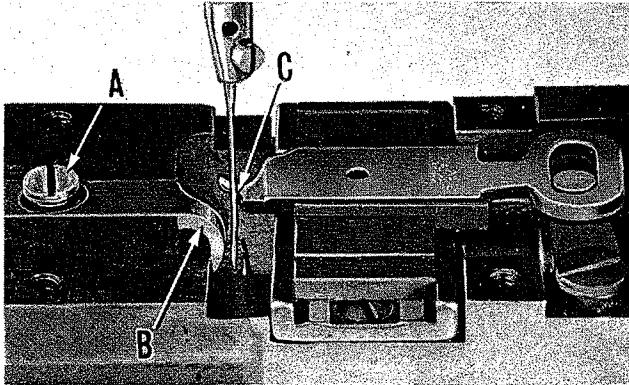

Fig. 25
Move the needle guard (B, Fig. 25) away from the needle by loosening screw (A), and sliding the guard forward. Engage machine into RUN POSITION and rotate the pulley two complete revolutions in operating direction. Continue rotation until the needle bar reaches its lowest position.
At this point the leading edge of the positioning finger (C, Fig. 25) should be approximately .002 inch (.05 mm) from the needle.
When the needle bar is at its lowest position, the guard (B, Fig. 25) should be .002 inch (.05 mm) from the needle.
With the needle bar at its lowest position loosen screw (A, Fig. 25) and move the guard so that it is located .002 inch (.05 mm) from the needle. Tighten screw (A) securely.